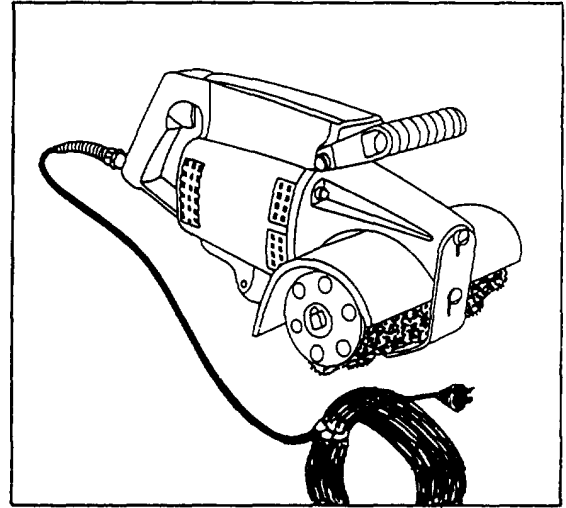

Figure 7-21.—Power-driven roughing machine.
- You can quickly rough masonry surfaces using a power-driven roughing machine (such as that shown in figure 7-21) equipped with a cylindrical cage fitted with a series of hardened steel cutters. The cutters should be mounted to provide a flailing action that results in a scored pattern. After roughing, wash the wall clean of all chips and dust and let it dry.